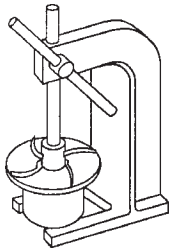

Figure 3
1. To remove the bushing (item 16A), place the impeller drive in an arbor press with the slotted end of the bushing facing down. Insert a 1" diameter plastic or wooden shaft through the impeller eye and press the bushing out. See figure 3.